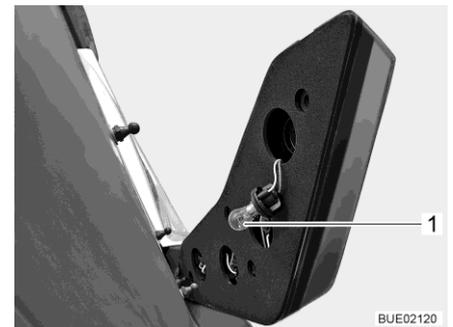

Fig. 203 Rear light
- Reach into the hole on the back of the housing. Turn and pull holder (Fig. 203,1) out (bayonet fitting). The figure shows the brake light as an example.